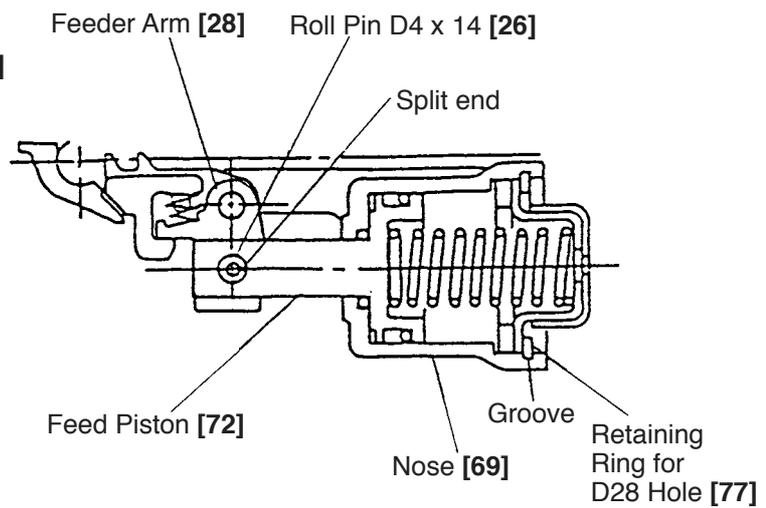

Fig. 24
- When driving in the Roll Pin D4 x 14 [26], ensure it is inserted so that its split end is on the magazine side, as shown in Fig. 24.